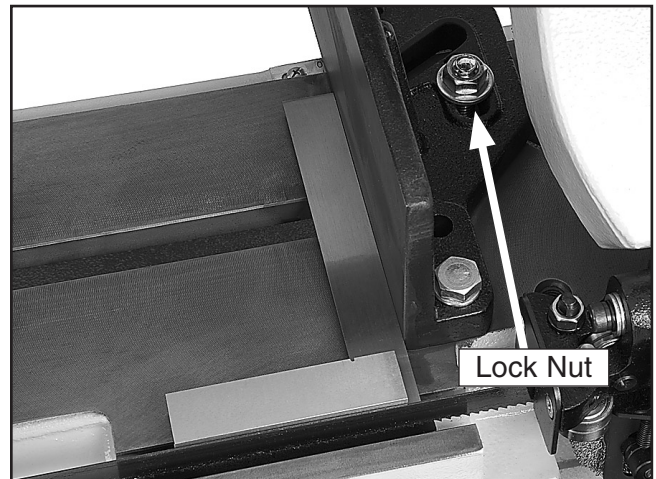

Figure 22. Squaring vise to blade.
1. Loosen the lock nut shown in **Figure 22** with a $\frac{3}{4}$ " wrench or socket.